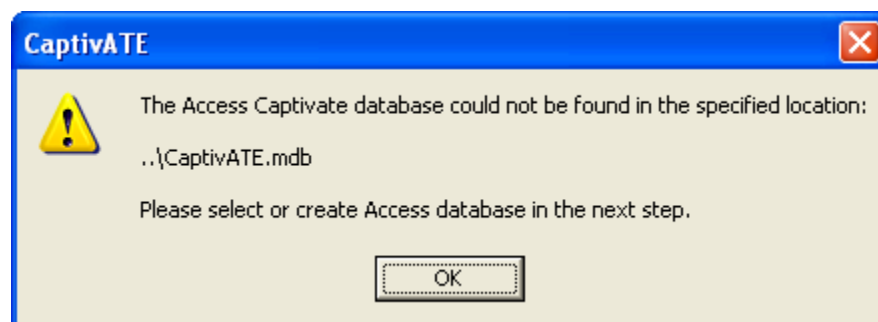

Figure 5 “Next Step” Pop-Up
2. Very briefly, a splash screen opens and closes, and a pop-up (Figure 5) asks you to click **OK** to define the location for the Access database.